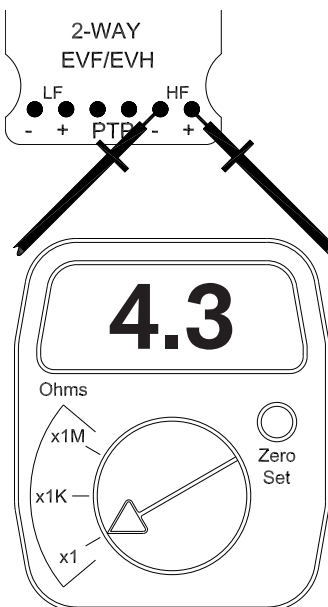

Figure 4:
2. Test the compression driver: Place one test lead securely on each of the YELLOW test points on the Access Card. A properly functioning compression driver will read approximately 4.3 ohms DCR, ± 0.5 ohm (See Figure 4). A significantly higher reading indicates an open voice coil, meaning the compression driver must be replaced. A significantly lower reading indicates a voice coil that is shorting, meaning the compression driver must be replaced.